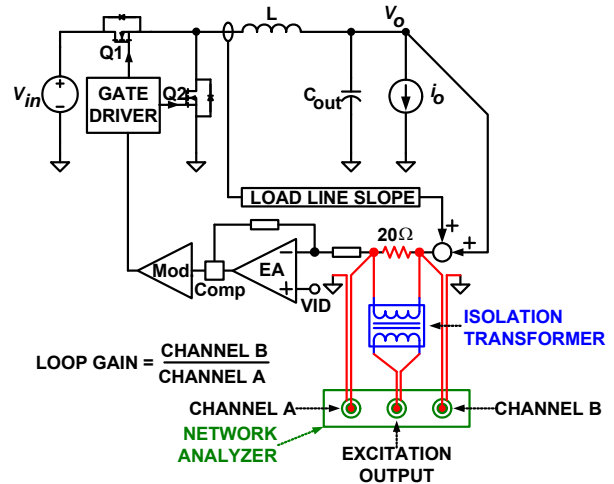
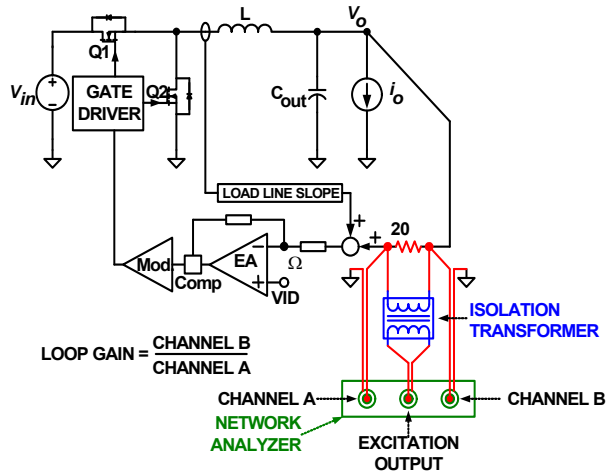

FIGURE 22. LOOP GAIN T1(s) MEASUREMENT SET-UP
FIGURE 23. LOOP GAIN T2(s) MEASUREMENT SET-UP
A VR with active droop function is a dual-loop system consisting of a voltage loop and a droop loop which is a current loop. However, neither loop alone is sufficient to describe the entire system. The spreadsheet shows two loop gain transfer functions, T1(s) and T2(s), that describe the entire system. Figure 22 conceptually shows T1(s) measurement set-up and Figure 23 conceptually shows T2(s) measurement set-up. The VR senses the inductor current, multiplies it by a gain of the load line slope, then adds it on top of the sensed output voltage and feeds it to the compensator. T(1) is measured after the summing node, and T2(s) is measured in the voltage loop before the summing node. The spreadsheet gives both T1(s) and T2(s) plots. However, only T2(s) can be actually measured on an ISL62883 regulator.